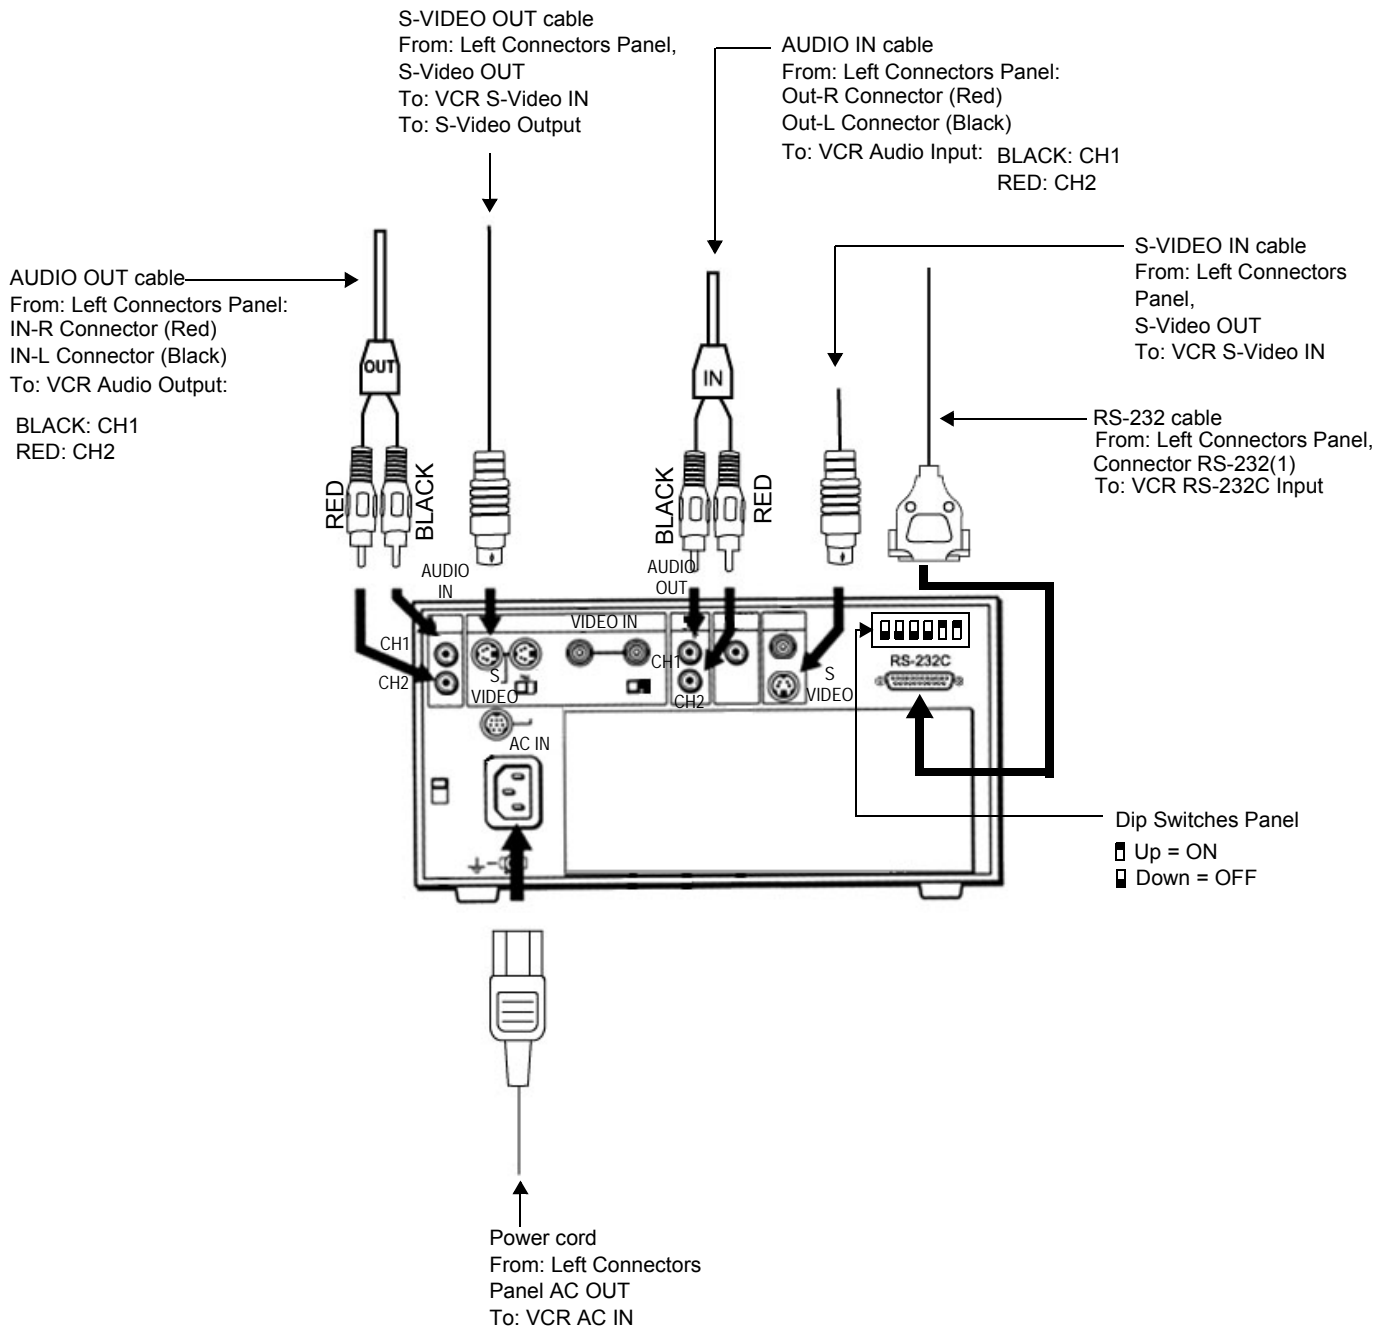

Figure 8-131 Sony VCR Connection Cables
- 2.) Connect the RS-232C cable, the Audio and S-Video IN and OUT cables, and the Power cord, as shown in Figure 8-131.
- 4.) Disconnect the RS-232C cable, the Audio and S-Video IN and OUT cables, and Power cord from VCR's rear as shown in Figure 8-131 on page 8-139.